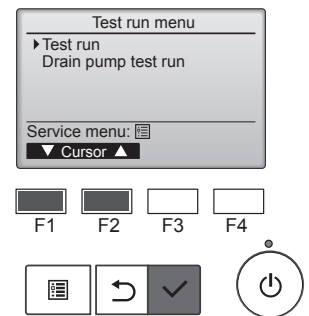

Fig. 8-2
- (2) Select "Test run" from the Test run menu, and press the [SELECT] button. (Fig. 8-2)
- (3) The test run operation starts, and the Test run operation screen is displayed.